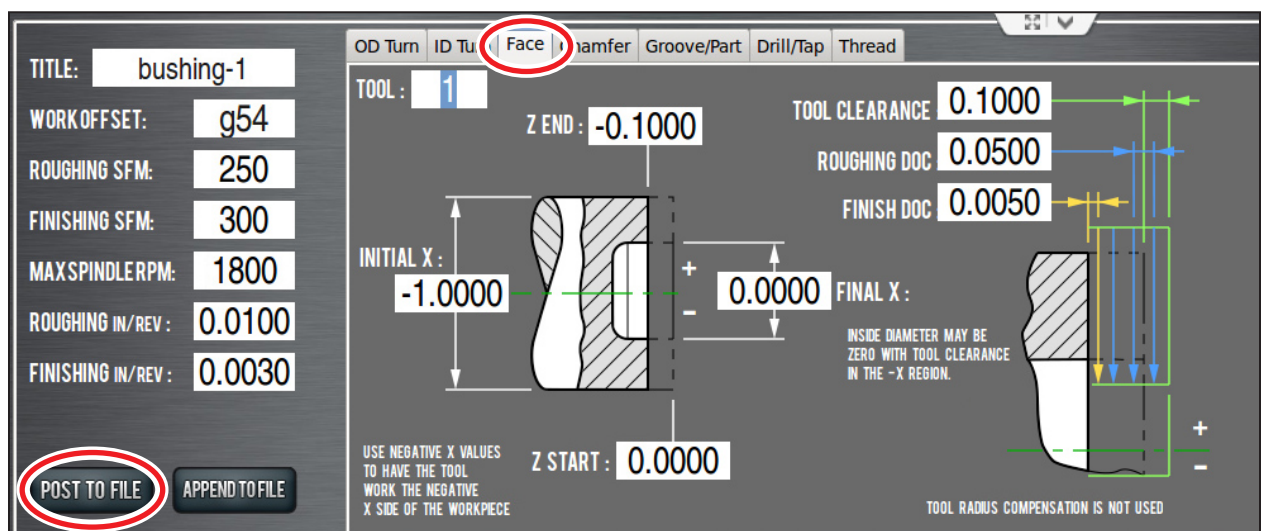

Figure 4.16
1. To write the code for the first operation, click the *Conversational* tab to bring up the conversational screens. Click the *Face* tab to bring up the facing screen (see **Figure 4.16**) to generate code to face the part back to Z of -0.100".
2. Enter the values as shown in **Figure 4.16**.
3. Click *Post to File* on the *Face* tab to save the G-code (see **Figure 4.16**).